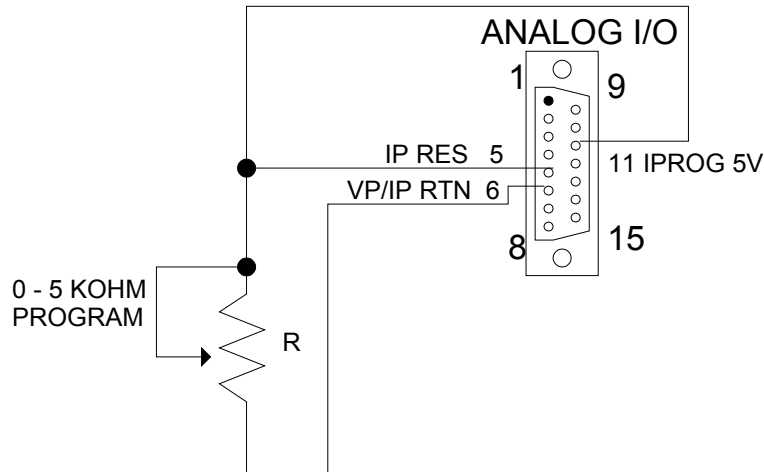

Figure 5-5: Remote Current Programming Using Resistance
2. External Current Programming Using Resistance. The resistance coefficient for remote current programming is 5k ohms/100% rated output with respect to pin 6 (ISO VP/IP RTN). The programming current from PIN 5 (IP RES) is factory set for 1 milliamp. This yields a coefficient of 1.0% of rated output current for each 50 ohms. If multiple switches or relays are used to program different levels, make-before-break contacts are recommended. . See Figure 5-5 for connection requirements.